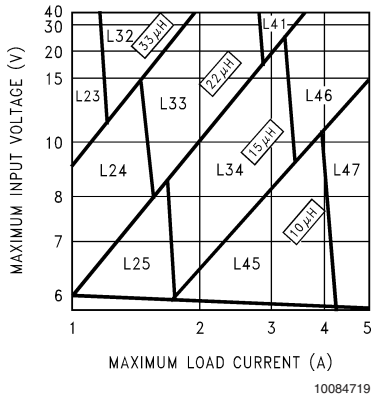
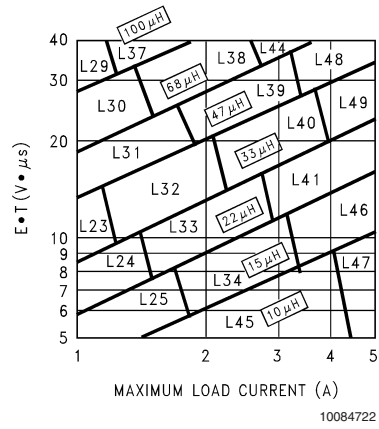

FIGURE 3. LM2679-3.3
FIGURE 6. LM2679-ADJ
Step 3: Determine the inductor required by using one of the four nomographs, *Figure 3* through *Figure 6*. Table 1 provides a specific manufacturer and part number for the inductor.
Step 5: Determine an input capacitor from Table 4 for fixed output voltage applications. Use Table 2 to find the specific capacitor type. For adjustable output circuits select a capacitor from Table 2 with a sufficient working voltage (WV) rating greater than $V_{in\ max}$, and an rms current rating greater than one-half the maximum load current (2 or more capacitors in parallel may be required).
Step 3: Use the nomograph for the 3.3V device, *Figure 3*. The intersection of the 16V horizontal line ($V_{in\ max}$) and the 4A vertical line ($I_{load\ max}$) indicates that L46, a 15 μ H inductor, is required.
Step 3: To use the nomograph for the adjustable device, Figure 6, requires a calculation of the inductor Volt•microsecond constant ($E \cdot T$ expressed in $V \cdot \mu$ S) from the following formula:
Using Figure 6, the intersection of 27V• μ S horizontally and the 3.5A vertical line (I_{load} max) indicates that L48, a 47 μ H inductor, or L49, a 33 μ H inductor could be used. Either inductor will be suitable, but for this example selecting the larger inductance will result in lower ripple current.
Important Note: When using the adjustable device in low voltage applications (less than 3V output), if the nomograph, Figure 6, selects an inductance of 22 μ H or less, Table 6 does not provide an output capacitor solution. With these conditions the number of output capacitors required for stable operation becomes impractical. It is recommended to use either a 33 μ H or 47 μ H inductor and the output capacitors from Table 6.